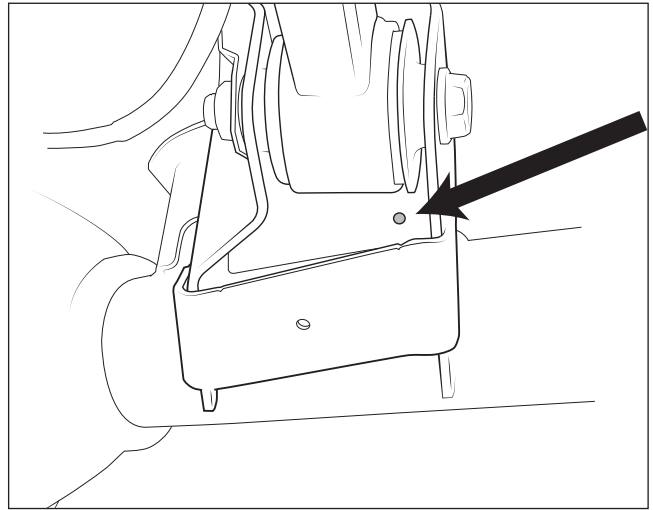

Figure 6
- b. Drill the existing hole in the control arm bracket to 1/2" and treat for corrosion (fig. 6).